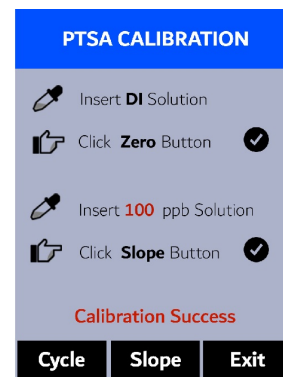

Figure 6.
10. If the calibration succeeds, a checkmark ( **✓** ), a “**Calibration Success**” message will appear (Figure 6). Otherwise, a warning message is displayed.